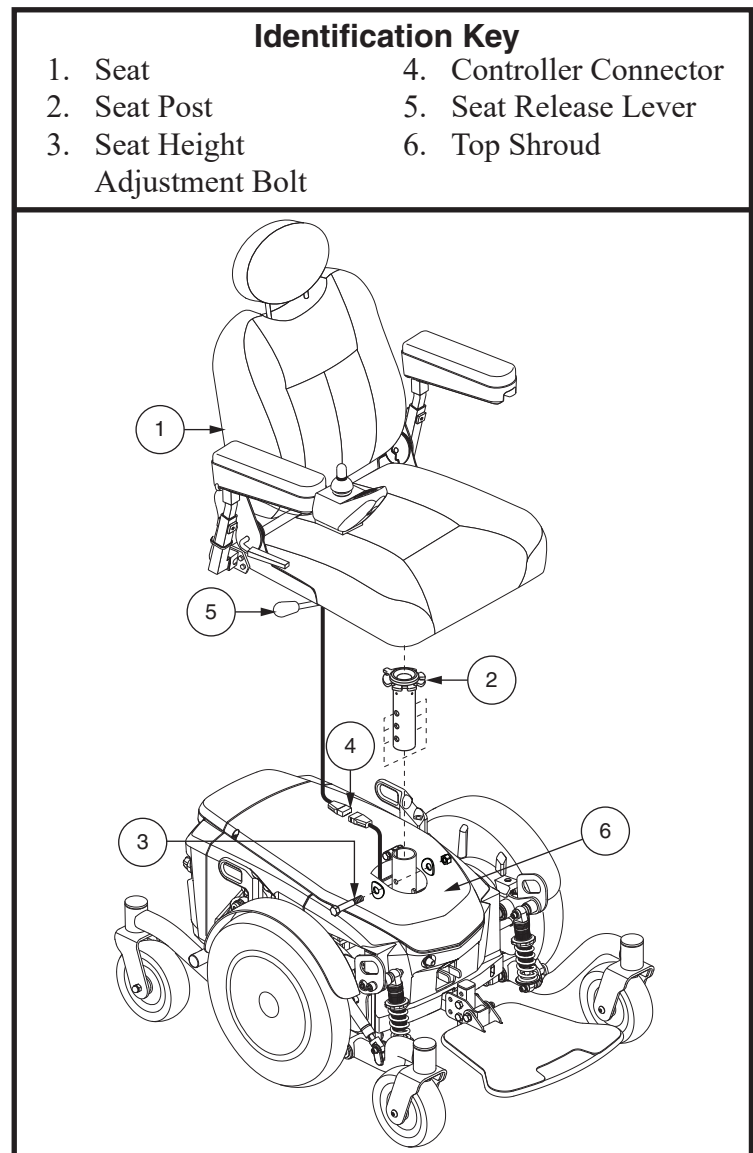

Figure 8. Seat Height Adjustment
3. Disconnect the controller connector from the power base. See figure 8.
4. Disengage the seat release lever. See figure 8.
7. Loosen the hardware at the rear of the seat post. See figure 8.
8. Remove the seat height adjustment bolt, washers, and nut from the seat post. See figure 8.
**NOTE:** The most common configuration of the seat adjustment hardware is shown in figure 8. Your product may be equipped with a different configuration. All configurations operate in a similar manner.